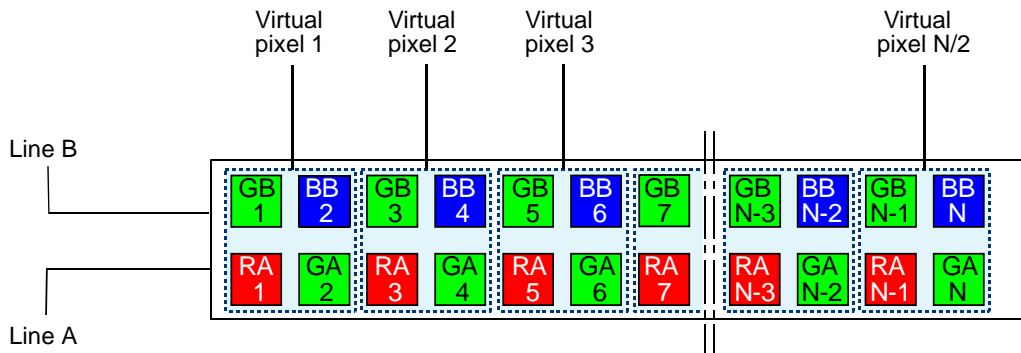

Fig. 16: Virtual Pixels of the RGB Line Acquisition Mode
- When exposure is complete, the pixel values are read out and processed in the following way to serve as pixel values of virtual pixels (see Figure 16):